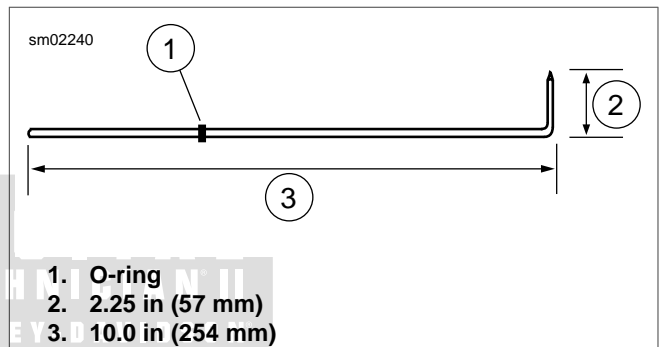

Figure 2-59. Alignment Tool
3. See Figure 2-59. To ensure accurate measurements, obtain a piece of 1/8 in. (3.2 mm) aluminum welding rod 12.25 in. (311 mm) long. Grind one end down to a blunt point. With a pliers, bend the rod 90° as shown. Place a snug fitting O-ring or cable strap on the rod to act as a slide measurement indicator.